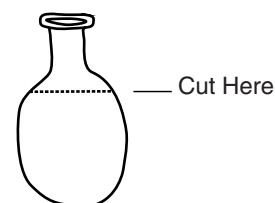

Figure 2. Cutting Large Balloon
3. Use sharp scissors to cut the large balloon as shown in Figure 2.